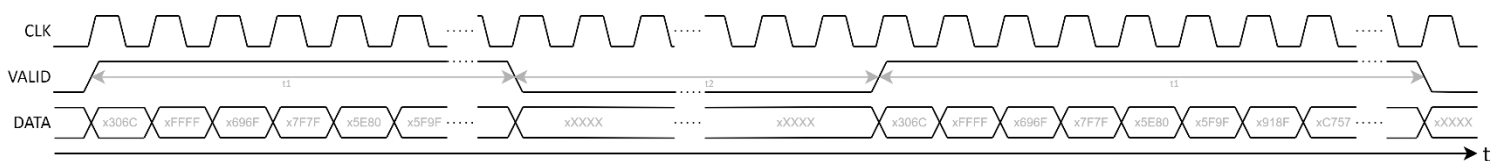
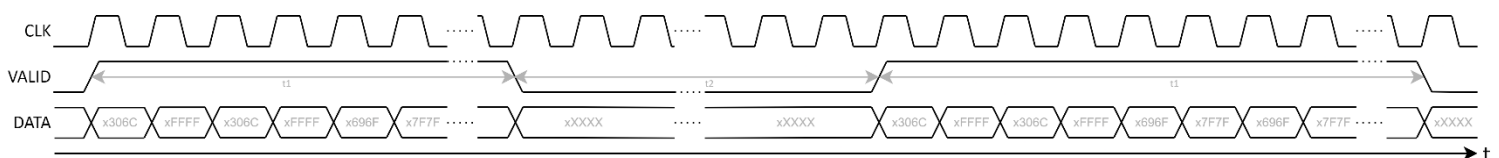

Figure 5: FCP signals for calibration with 125 MSps playback rate and 250 MHz clock. Figure not to scale.
Figure 6: FCP signals for calibration with 250 MSps playback rate and 500 MHz clock. Figure not to scale.
and so forth. Figure 5 depicts how the I and Q data should be sent consecutively. Please make sure there is a new data sample at every rising clock edge. The data sample that arrives along with any rising edge of the valid bit must be an I data sample – not a Q data sample. However, this data sample does not necessarily have to be the  $i_0$  sample. It can be any  $i_n$  sample if the consecutive data sample is the corresponding  $q_n$  sample.
- The order of I and Q samples needs to be changed slightly for calibration with a playback rate of 250 MSps. The sender must generate two pairs of IQ data samples as described in the above code example. The pairs are then sent to the FCP successively. Figure 6 depicts the order of the required IQ data which is
The signal at the valid pin of the FCP (see [1] for details on pin mapping) must stay low while the FCP is being enabled. In Figure 5 and Figure 6 the time periods for which the valid signal is high or low are labeled  $t_1$  and  $t_2$  respectively. For calibration, these periods are required to be roughly 3 seconds.